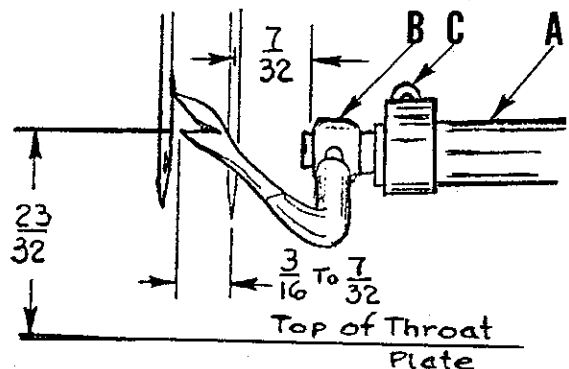

Fig. 6
If spreader gauge is not available to set the spreader, turn the handwheel in the operating direction until the spreader bar (A, Fig. 6) is in the extreme left position. Set the spreader holder (B) in the spreader bar so the left end of the holder is $\frac{7}{32}$ inch to the right of the center of the right hand needle (Fig. 6), and tighten collar screw (C). Looper gauge 21225-7/32 can be used for this setting. DO NOT CHANGE THIS LATERAL SETTING OF THE HOLDER.
With the spreader in this position, rotate the spreader about its shank so the point closest to the operator is between $3/16$ and $7/32$ inch to the left of the center of the needle and approximately $23/32$ inch above the throat plate (Fig. 6). Turn the handwheel in the operating direction and check clearance between the bottom point of the spreader and the lower looper. The spreader point should cross the top of the looper to the left as close as possible to the eye and to the back of the looper without touching it.